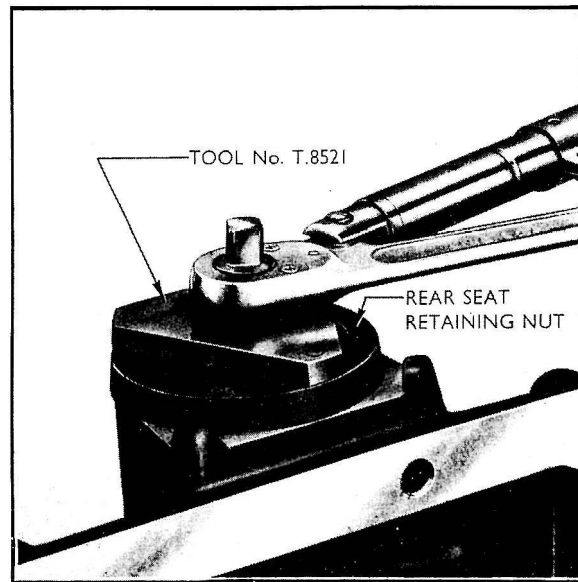

Fig. 63
- (c) Replace the nut and shims and tighten to a torque of 80/85 lb. ft. (11.06/11.74 kg.m.) using special adaptor Tool No. T.8521, and a suitable torque wrench (see Fig. 63).